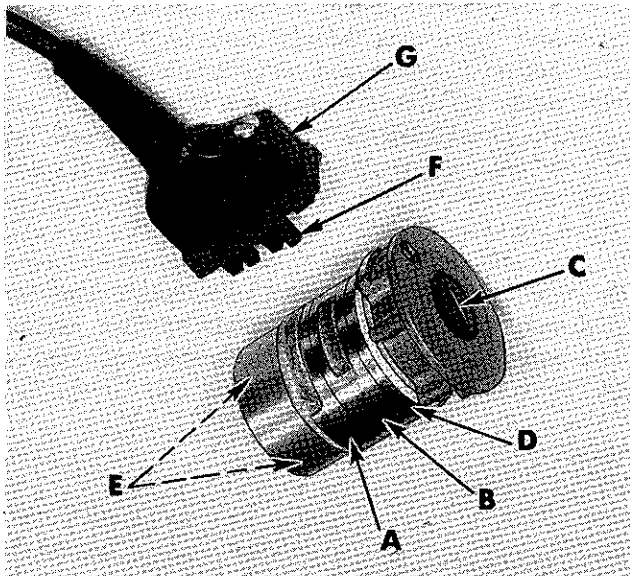
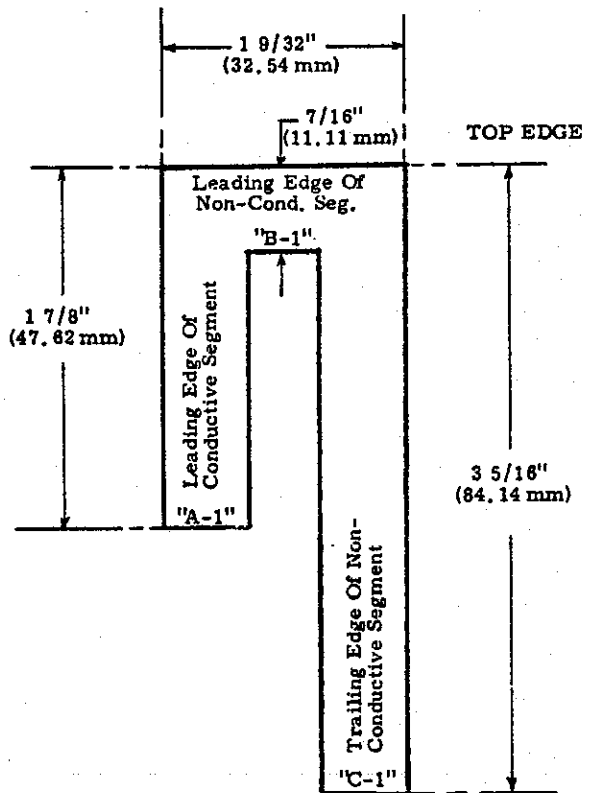

Fig. 39
Fig. 40
The synchronizer is composed of three slip rings and four carbon brushes. The hub, band (A, Fig. 39) is fixed on the synchronizer and controls the "cutting mechanism". Band (B) is adjustable by means of screw (C) and controls the "needle-up" position. Band (D) is also adjustable by means of screw (C) and controls the "needle-down" position.
Assemble the brush holder and bracket to the machine as shown in Fig. 1B and the synchronizer to the handwheel adapter. Do not tighten screws (E, Fig. 39) in the synchronizer hub, band (A) at this time. Loosen screw (C) so that bands (B and D) may be moved freely.
Figure 40 is provided to show dimensional relationships for setting the bands of the synchronizer. A plastic rule may be used for making these settings as compared to the sketch in Fig. 40. Visualize from the operator's position while seated at the machine, placing the top edge of sketch (Fig. 40) over the top of the bands until contact is made FLUSH with the edge of the brushes (NOT THE BRUSH HOLDER) and proceed as follows:
Rotate hub, band (A, Fig. 39) of the synchronizer in the operating direction until the LEADING EDGE of its CONDUCTING segment aligns with ("A-1", Fig. 40) $1 \frac{7}{8}$ inches (47.62 mm). Secure the synchronizer to the handwheel adapter in this position by screws (E).
Rotate band (B, Fig. 39) in the operating direction until the LEADING EDGE of its NON-CONDUCTING segment aligns with ("B-1", Fig. 40) $\frac{7}{16}$ inch (11.11 mm). WHILE HOLDING BAND (B) IN THIS POSITION, rotate band (D) in the operating direction until the TRAILING EDGE of its NON-CONDUCTING segment aligns with ("C-1", Fig. 40) $3 \frac{5}{16}$ inches (84.14 mm).
With the power off, remove the throat plate and turn the handwheel in the operating direction until the needle has reached its lowest position; continue to turn the handwheel in the operating direction until the hook point has passed the needle by approximately $\frac{5}{64}$ inch (1.98 mm). At this point, the NON-CONDUCTING segment of band (D, Fig. 39) should be on brush (F).